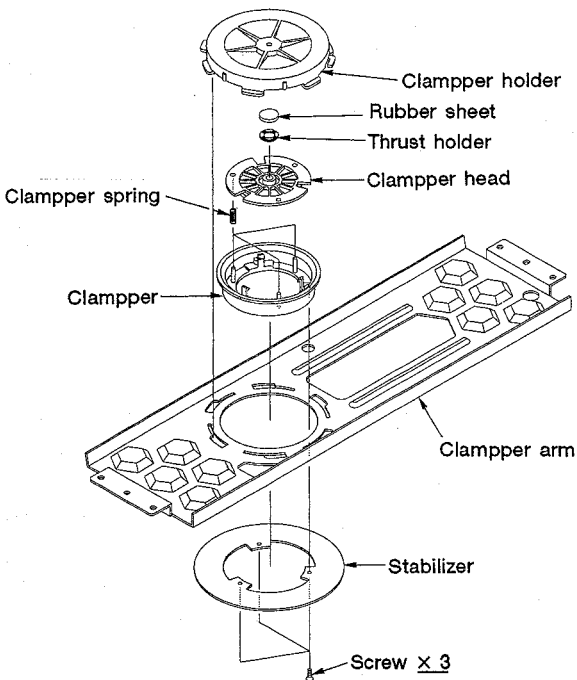

Fig. 2-6 Clamper unit
- ④ Clamper unit (Fig. 2-6)
④ Clamper Unit (Refer to Fig. 2-6)
While the servo-mechanism unit is ascending, the disc on the tray is lifted and the clamber waiting on top is pushed up. Clamping force is generated (Fig. 2-6) from the force of the clamp spring between the clamber and clamber head.